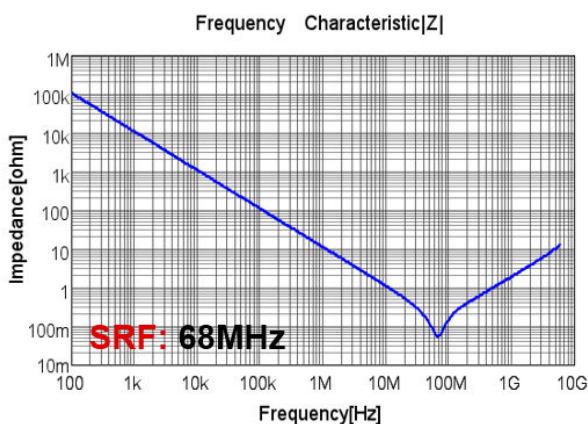

Figure 2-9. 0402 15nF - Impedance vs. Frequency
- High frequency decoupling capacitors must be placed as close as possible to the input and output pins. The 0402-capacitor case size offers the lowest ESL and highest self-resonant frequency (SRF) for achieving low impedance at the 64MHz, fundamental switching frequency. 15nF values were selected to achieve the lowest impedance. The impedance vs. frequency plot of is shown in Figure 2-9.